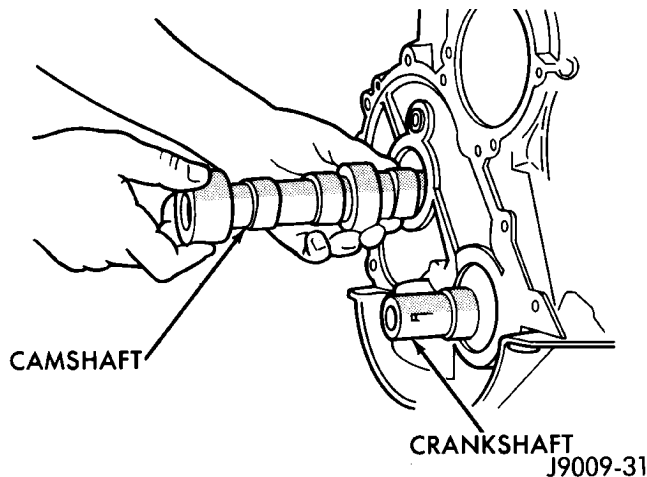

Fig. 45 Camshaft
- (5) Remove the distributor and ignition wires.
- (6) Remove the engine cylinder head cover.
- (7) Remove the rocker arms, bridges and pivots.
- (8) Remove the push rods.
- (9) Remove the engine cylinder head and gasket.
- (10) Remove the hydraulic valve tappets from the engine cylinder block.
- (11) Remove the vibration damper.
- (12) Remove the timing case cover.
- (13) Remove the timing chain and sprockets.
- (14) Remove the front bumper and/or grille, as required.
- (15) Remove the camshaft (Fig. 45).
(6) Lubricate the camshaft with Mopar Engine Oil Supplement, or equivalent.
(7) Carefully install the camshaft to prevent damage to the camshaft bearings (Fig. 45).